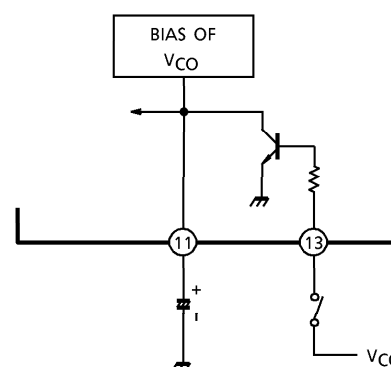
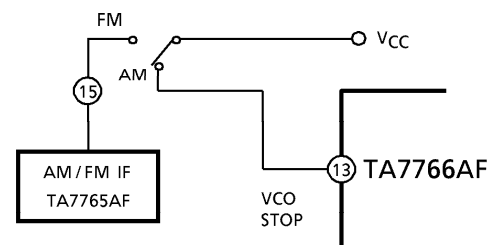

Fig.4
Fig.5
In case that the terminal pin⑬ is connected to  $V_{CC}$  as Fig.4, this item becomes compulsive monaural mode. That causes the VCO stopping. Connected as Fig.5, switchover between AM / FM mode is possible with one-make switch.